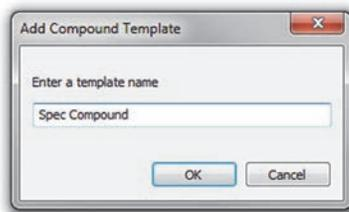

Figure 1-49 The Add Compound Template dialog box
4. Click the plus (+) button beside the Default list to display the **Add Compound Template** dialog box (see Figure 1-49 on page 39).